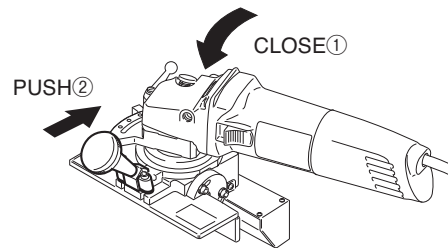

Fig. 18
- (5) Close the Lock Plate with the Knob laid down and lay the Knob aside to lock it. (Fig.18)